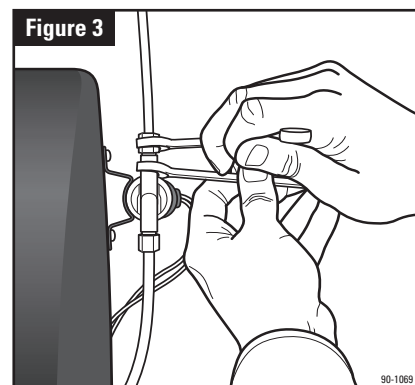

Figure 3
10. Connect tubing from the saddle valve to the inlet side of the solenoid valve using 1/4" O.D. copper tubing (not furnished). **DOUBLE WRENCH TO PREVENT LEAKING!** (See Figure 3)